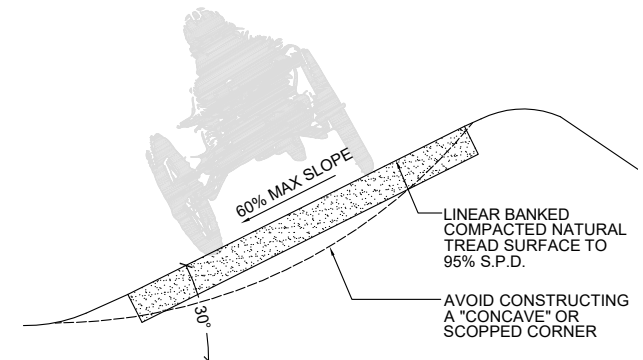

Figure 5 - aMTB Berm
- Due to the limited riding dynamics and turn radius of aMTB equipment, flat and outsloping corners should be avoided when possible during ascending and descending. Banked corners allow physics to help the aMTB complete the turn faster when descending. Small berms and extra material on the outside of climbing turns (even to partial thread width) can help aMTB achieve tighter turning radius, reducing the need for 2-point turns on switchbacks (Refer to Figure 5).